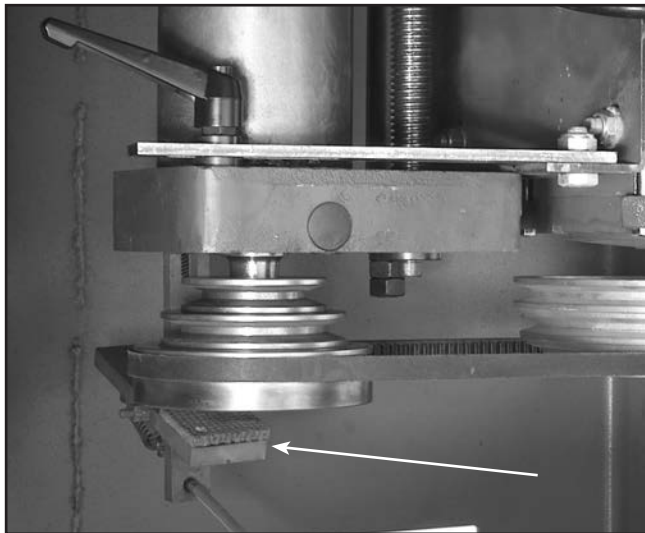

Figure 16. Brake pad.
1. Locate the brake pad shown in **Figure 16**.